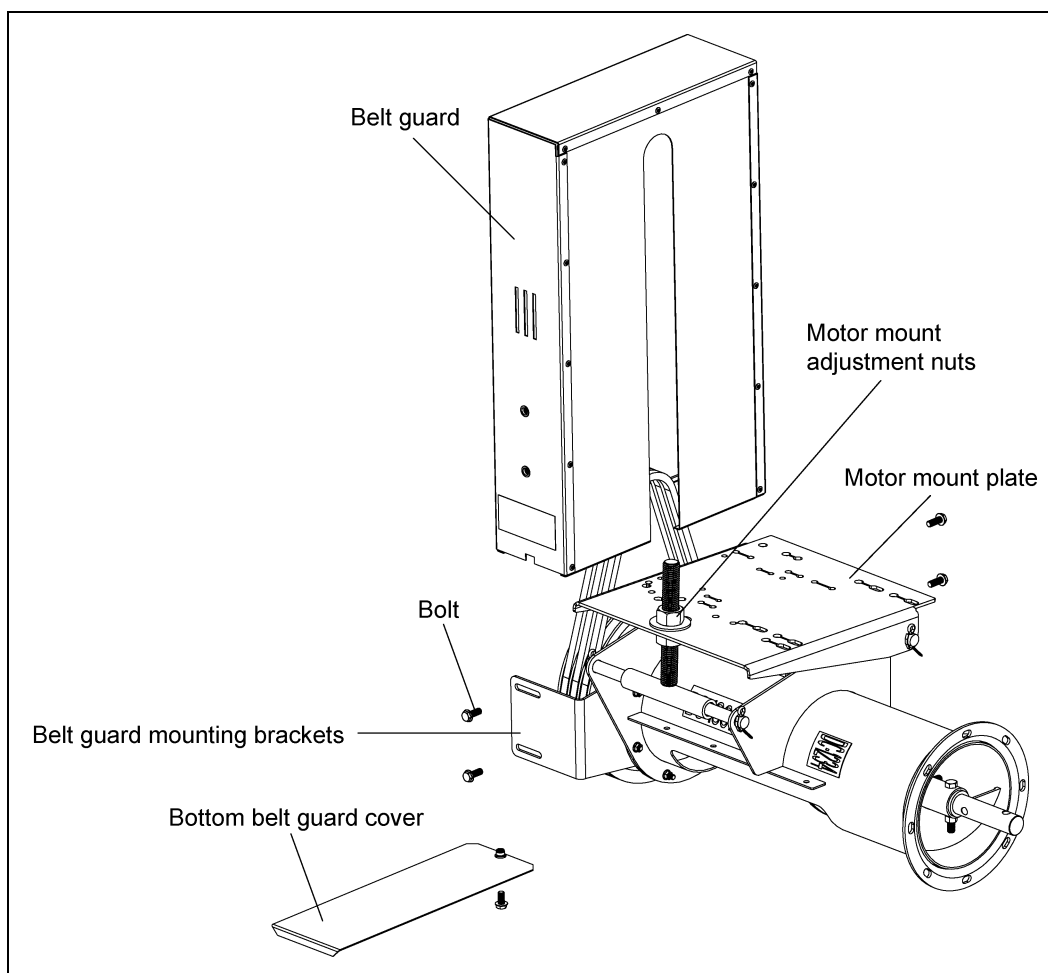

Figure 4M
3. Align the motor shaft and the flight drive shaft in the belt guard's slot, making sure that the belt guard DOES NOT contact either pulley, and tighten down the belt guard mounting brackets to the bearing Plate. (See Figure 4M.)